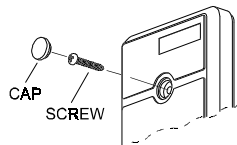

Figure 2. Cover Assembly
Remove the screw from the front cover (Fig. 2) and separate the front cover from the base.
- H. Secure the front cover with the screw and screw cap (Fig. 2).